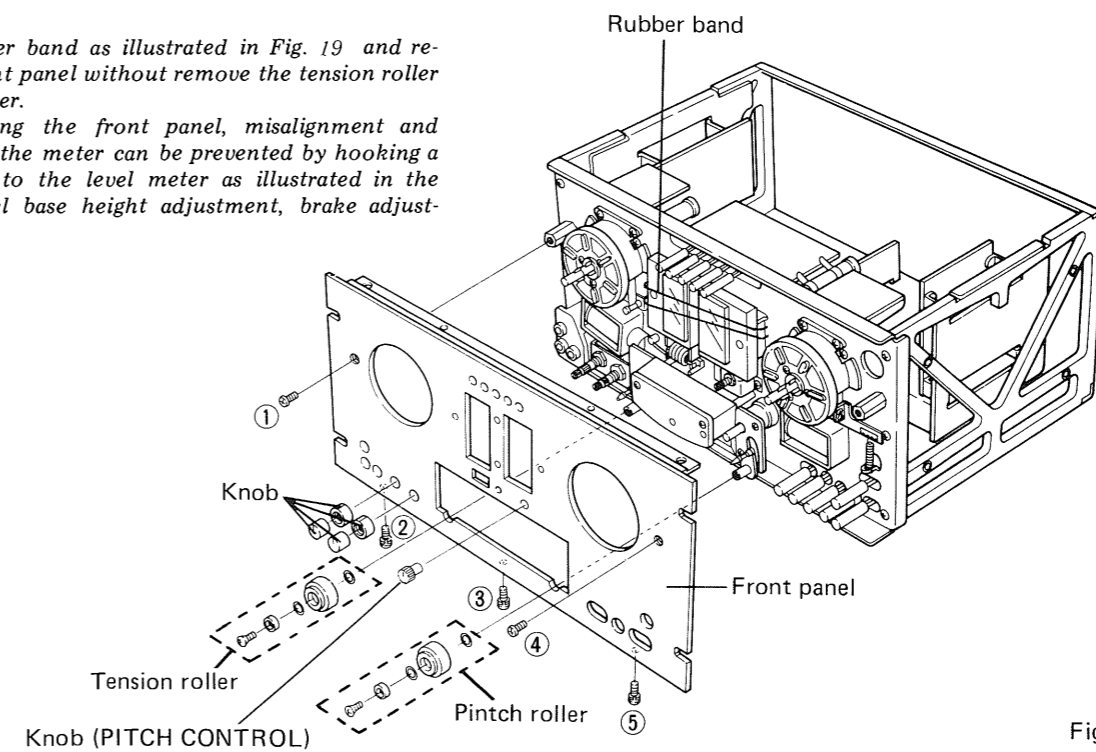

Fig. 19
- Hook a rubber band as illustrated in Fig. 19 and remove the front panel without remove the tension roller and pinch roller.